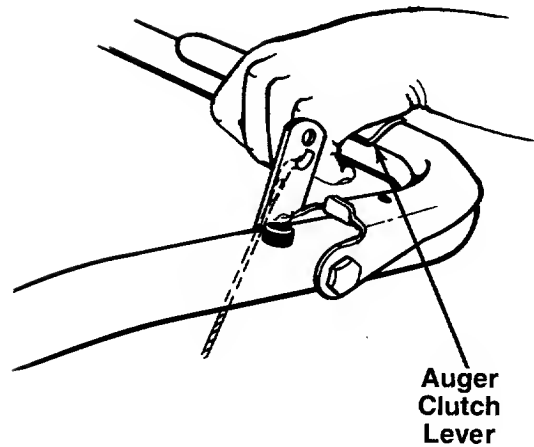
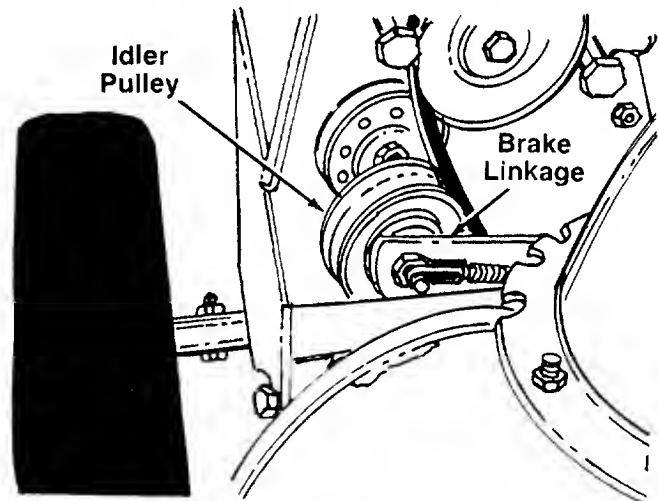

FIGURE 28.
FIGURE 29.
3. Squeeze auger clutch lever all the way down against the handle as shown in figure 28, and check the position of the brake linkage. It should be against the idler pulley. See figure 29. If necessary, adjust the ferrule on end of auger cable until the slot on brake linkage is over against the idler pulley with the auger clutch lever all the way down against the handle.
4. Secure the ferrule to the auger bracket with flat washer and hairpin clip. See figure 29.